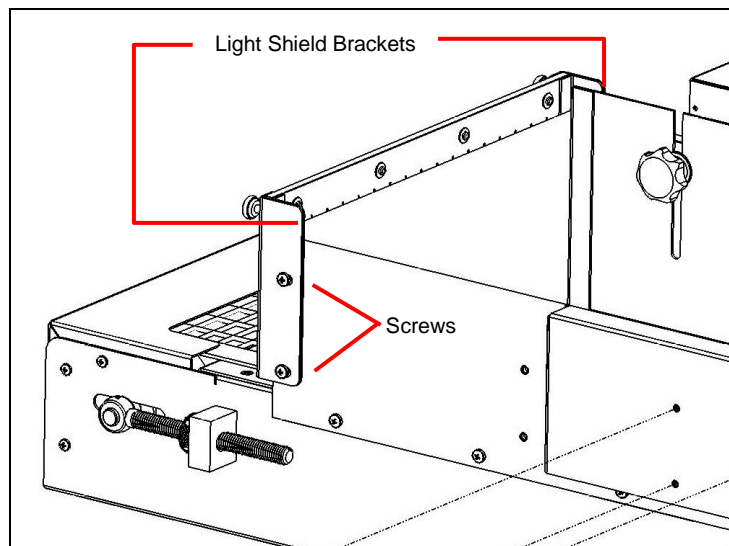

Figure 12. Remove Light Shield Brackets from Conveyor Entrance
1. Remove the Light Shield Brackets from the Conveyor by unscrewing the two screws on each side. (Figure 12)